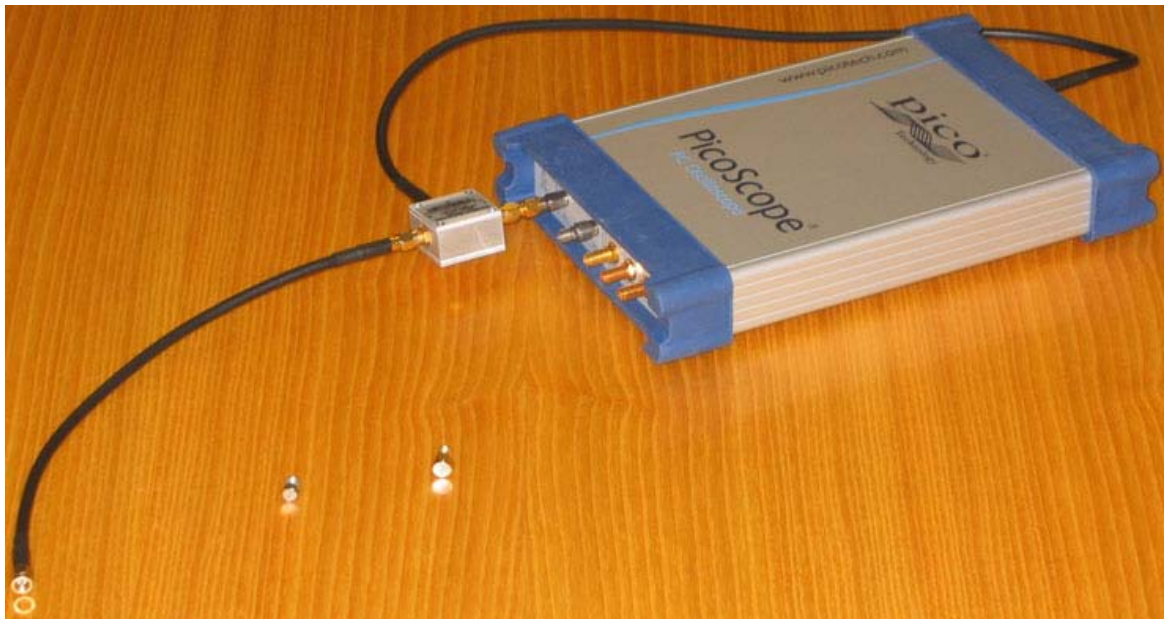

Figure 1
1. Connect the equipment as shown in Figure 1.